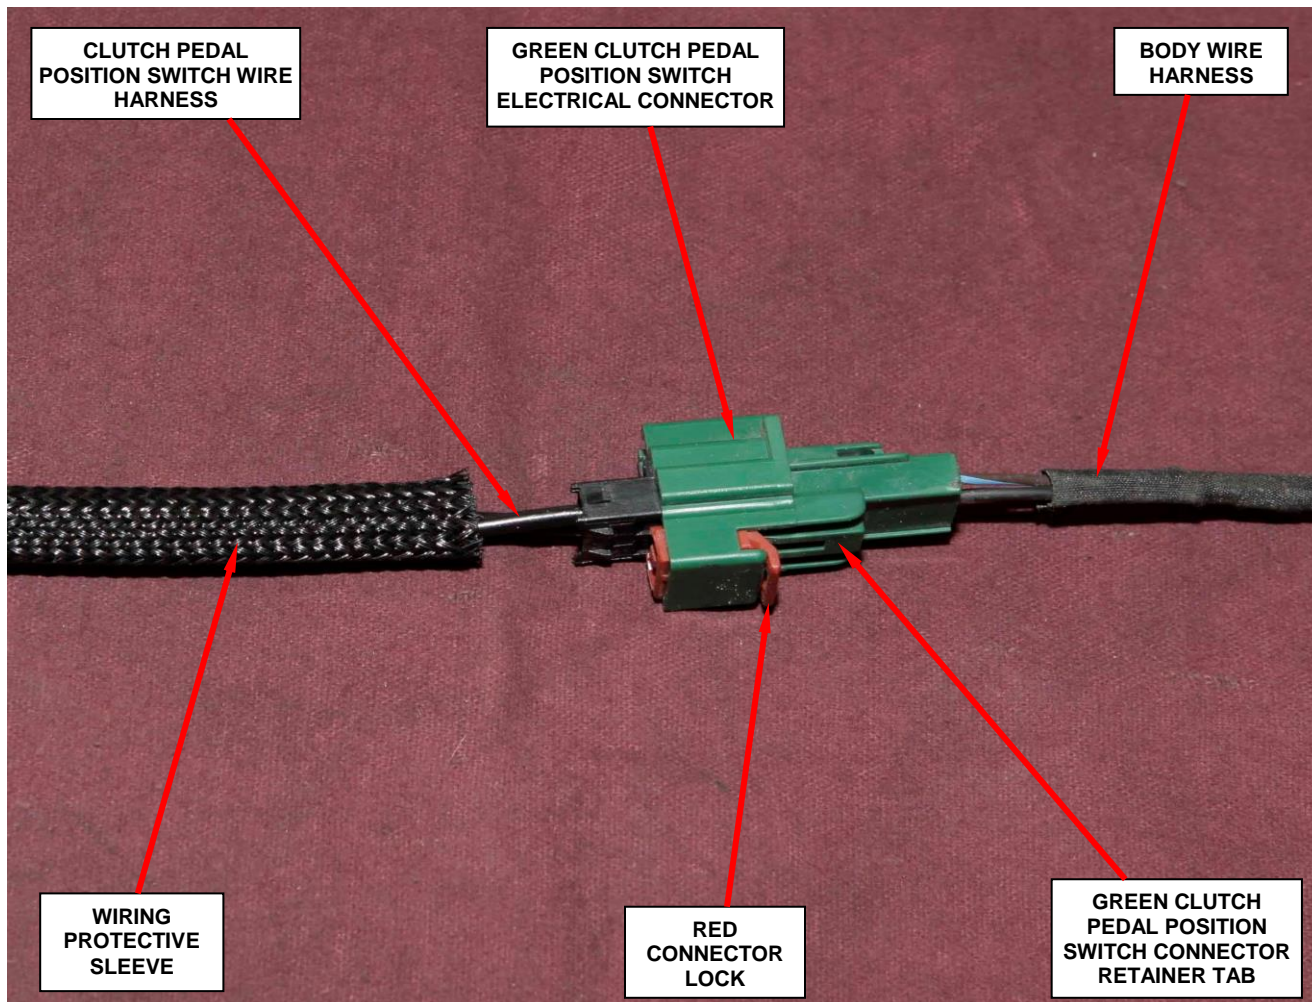

Figure 1 – Clutch Pedal Position Switch Electrical Connector
5. Unlock the red electrical connector lock on the green clutch pedal position switch electrical connector by sliding it rearward (Figure 1).
6. Depress the green clutch pedal position switch electrical connector retainer tab and disconnect the clutch pedal position switch electrical connector (Figure 1).
12. Connect the clutch pedal position switch green electrical connector to the green body wire harness electrical connector (Figure 1).
13. Engage the clutch pedal position switch red connector lock (Figure 1).